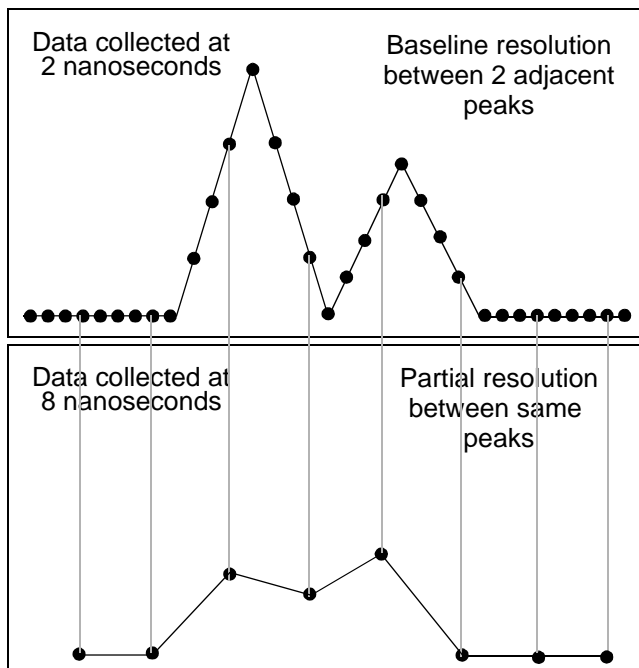

Figure 5-17 Effect of Bin Size (nsec) on Peak Resolution and Data Quality
- Increases resolution between peaks when peaks are narrow in time width (see Figure 5-17).
- Decreases resolution between peaks when peaks are narrow in time width (see Figure 5-17).